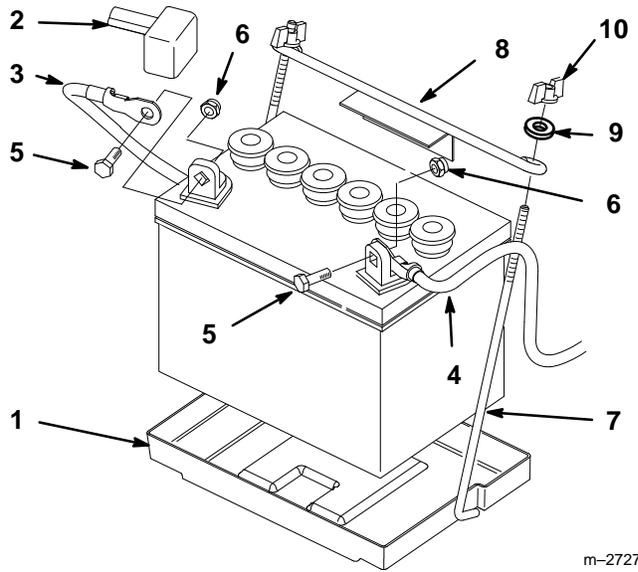

Figure 7
2. Position battery in tray with terminal posts away from the engine (Fig. 7).
4. Install the positive (red) battery cable to positive (+) battery terminal then negative battery cable to the negative (-) battery terminal. Secure cables with (2) 1/4 x 3/4" (19 mm) bolts and 1/4" locknuts (Fig. 7).
5. Secure battery with (2) support rods, a battery clamp and (2) 1/4" washers and wing nuts. Position support rods in mounting holes (Fig. 7). Tighten wing nuts so battery is held securely in position and will not slide. **DO NOT OVERTIGHTEN.**